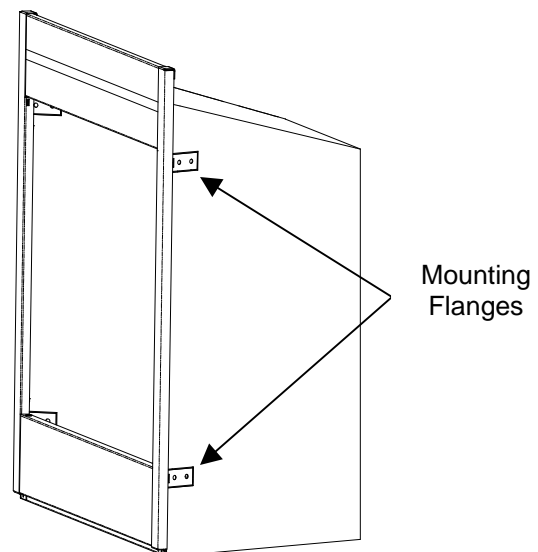

Figure 3
5. Place unit in position in the framed opening, level with shims if necessary and attach unit to frame using mounting flanges provided (see figure 3 on page 3).